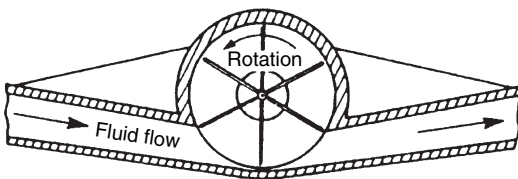

Figure 22.8
- (b) **Rotary vane positive displacement meters** measure the flow rate by indicating the quantity of liquid flowing through the meter in a given time. A typical such device is shown in section in Figure 22.8 and consists of a cylindrical chamber into which is placed a rotor containing a number of vanes (six in this case). Liquid entering the chamber turns the rotor and a known amount of liquid is trapped and carried round to the outlet. If  $x$  is the volume displaced by one blade then for each revolution of the rotor in Figure 22.8 the total volume displaced is  $6x$ . The rotor shaft may be coupled to a mechanical counter and electrical devices which may be calibrated to give flow volume. This type of meter in its various forms is used widely for the measurement of domestic and industrial water consumption, for the accurate measurement of petrol in petrol pumps and for the consumption and batch control measurements in the general process and food industries for measuring flows as varied as solvents, tar and molasses (i.e. thickish treacle).